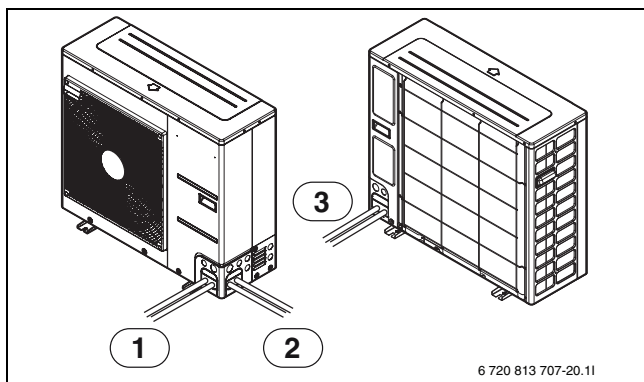

Fig. 21
- The pipes can be connectable in four directions. The directions are expressed in (→Fig. 21 & 22).